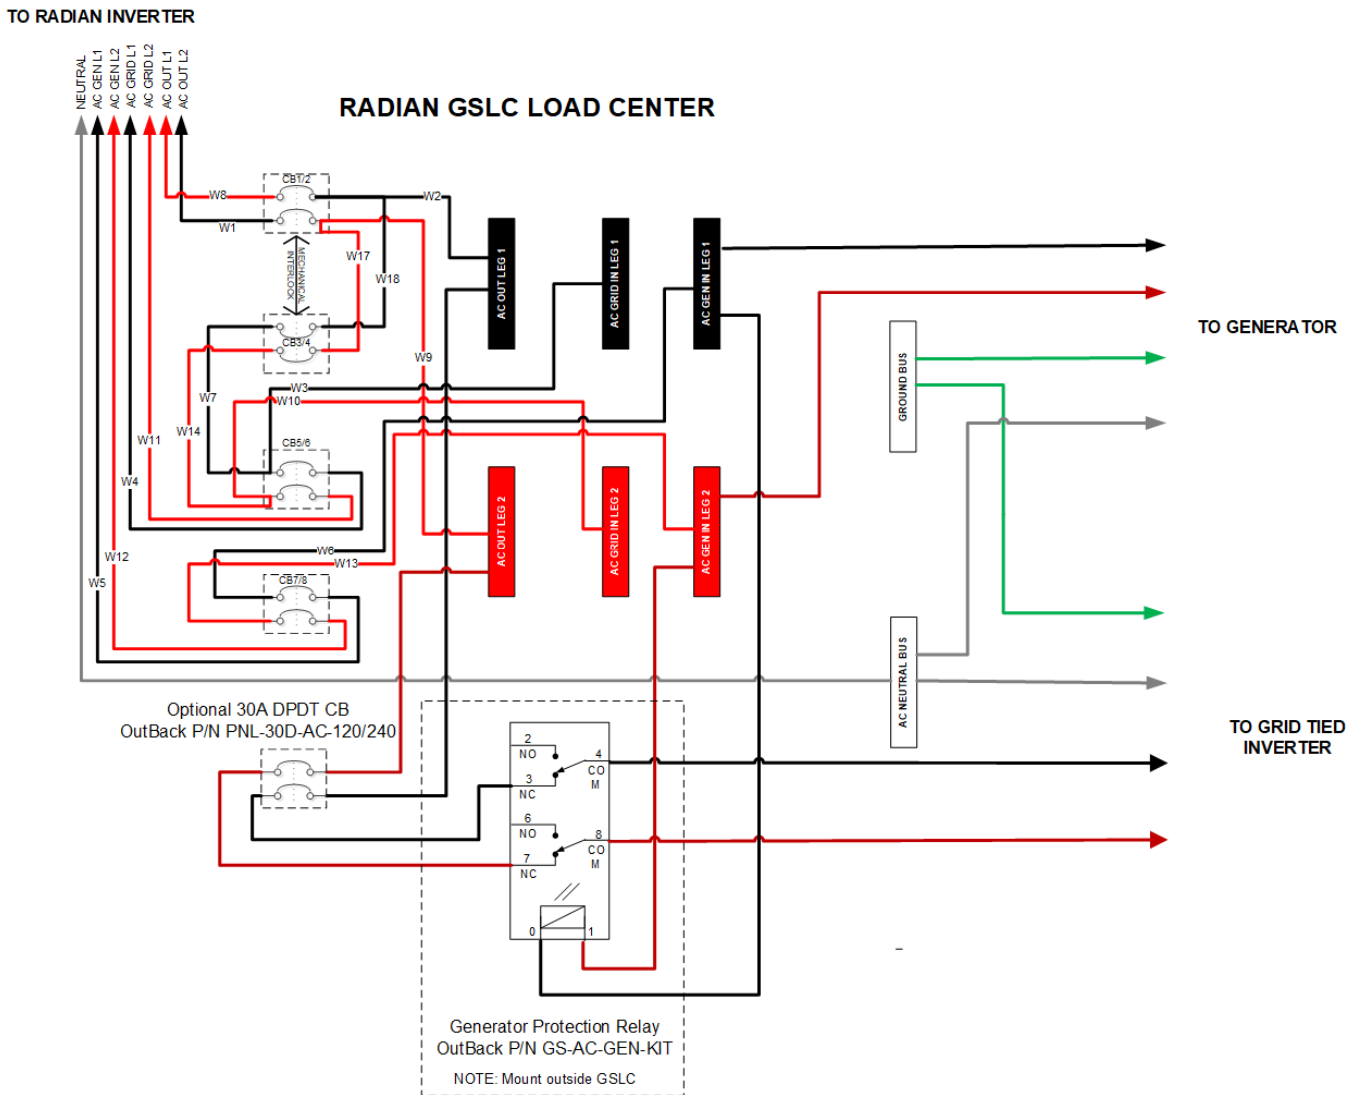

Figure 8 Generator Protection Relay and GTI Disconnect
Figure 8 on the next page shows the normal operation with the Radian inverter connected to the GTI through the 2PDT relay. Should the generator ever start — automatically or manually — the live AC voltage at the GSLC load center Gen AC Inputs will activate the 2PDT relay coils and force the normally closed (NC) contacts to the normally open (NO) position which opens the GTI connection so there is no danger of backfeeding the generator from the GTI.
For the automatic method using the lockout relay, the generator L1 and L2 phases can be connected to the **GEN IN** bus bars, with the generator ground and neutral connected to their respective bus bars. The L1 and L2 connections from the AC Gen In bus bars are then connected to the relay coil terminals. The GTI L1 and L2 connections can be made to the 2PDT to the common relay contacts (pins 4 & 5) as shown in Figure 8 and then the NC contacts (pins 3 & 7) are connected to the AC Output bus bars.
Figure 8 shows a single line diagram with the generator connected. The manual operation whereby the GTI is disconnected with the 30A CB/Disconnect BEFORE manually starting the generator will ensure that the generator does not get back-fed by the GTI when it is producing power from the PV array.